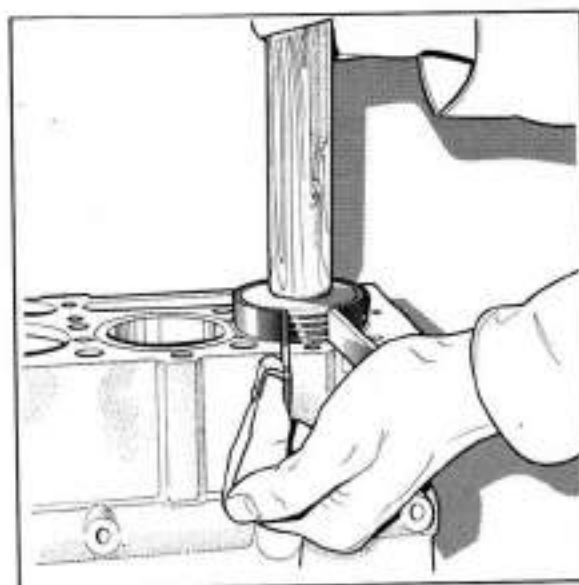

Figure 16 Compressing rings for refitting pistons
- 12 Insert the piston and connecting rod assemblies into the appropriate bores, positioning the scraper ring gaps to the rear, and the top and lower compression ring gaps at 180° and 90° to this. Compress the rings using a tool similar to that shown in Figure 16.
10 Insert the piston and connecting rod assemblies into the cylinder liners, positioning the scraper ring gaps to the rear and the top and lower compression ring gaps at 180° and 90° to this. Compress the rings for installation using a compression tool similar to that shown in Figure 16.